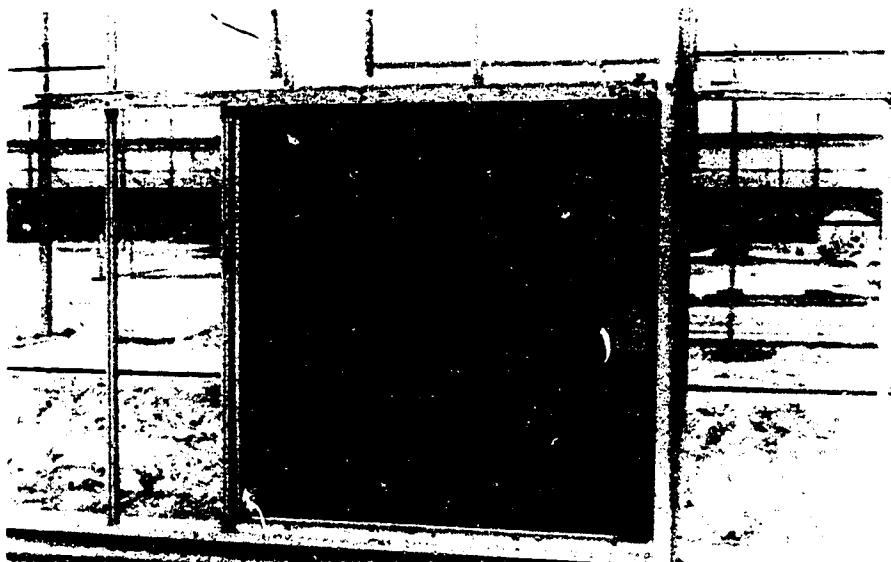

Figure 1. Interior view of an exhaust fan installed on the side wall of a greenhouse.
A greenhouse fan ventilation system will not function properly without periodic maintenance and repair. Some possible consequences of improper maintenance include: (1) pockets of stagnant (stale) air, (2) inadequate cooling from the fan and pad system, (3) heavy condensation, (4) high heating costs, (5) excess wear and tear on equipment, and (6) high repair bills. The purpose of this activity is to acquaint you with the basic procedures involved in the maintenance of the greenhouse fan ventilation system (Figure 1).